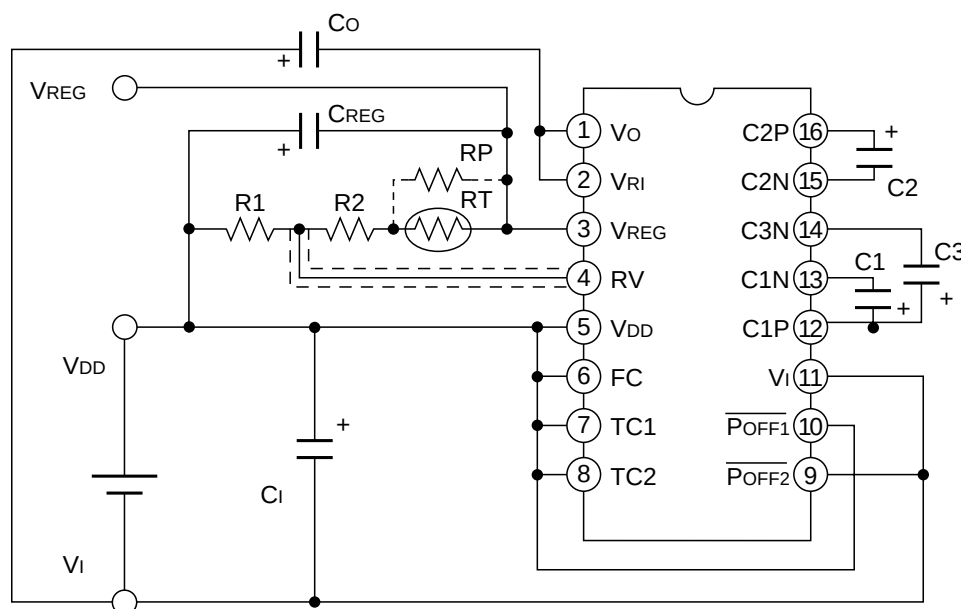

Figure 2.16 Wiring example when changing the regulator temperature coefficient
voltage. To set another temperature coefficient, use a thermistor resistor or others as shown in Figure 2.16.
## ◇ Setup conditions of Figure 2.16
- The thermistor resistor (RT) has the non-linear temperature characteristics. To correct them to the linear characteristics, insert the RP as shown Figure 2.16.